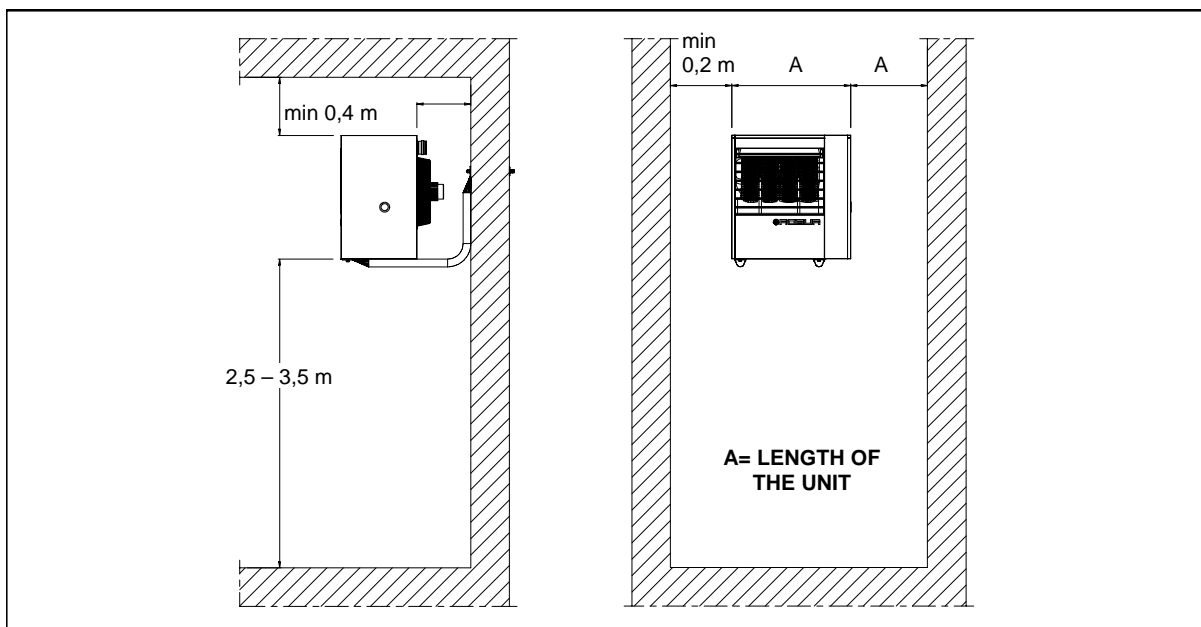

Figure 3
- B. The minimum distance from the wall behind the unit must be enough for air circulation. The minimum distance from the lateral walls is given by Figure 3.